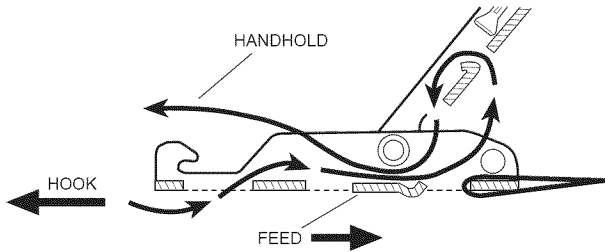

Fig. 9 - Belt Threading
- b. Feed strapping through tension buckle (See Fig. 9).